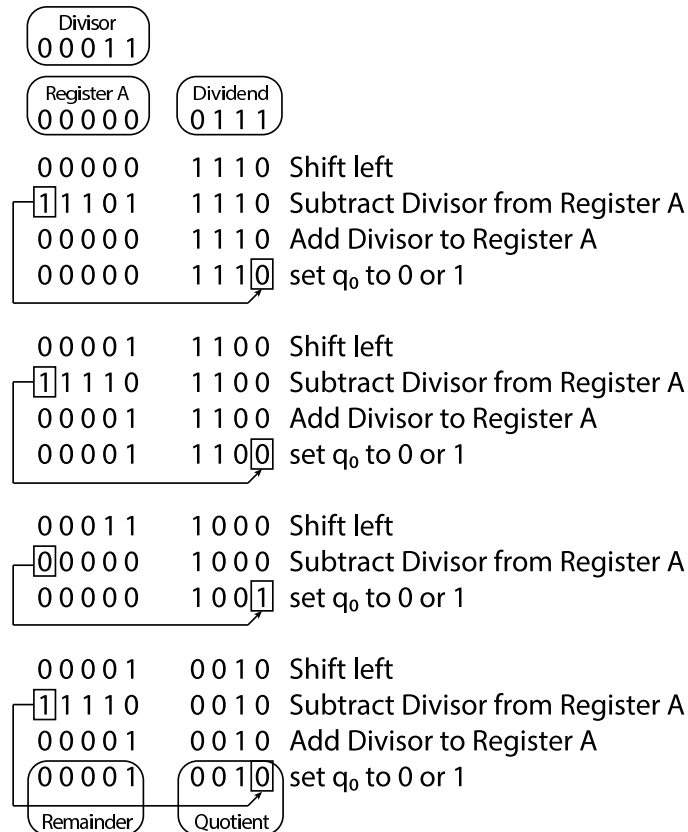
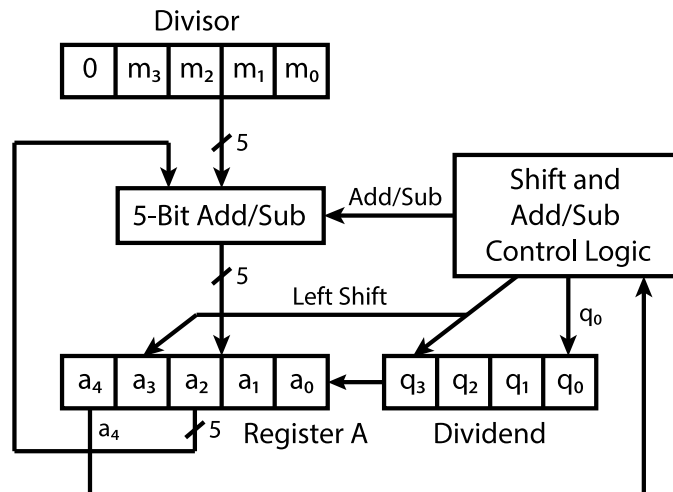

Figure 5: An example showing how the restoring divider works.
Figure 6: Block diagram of restoring divider.
Figure 5 shows an example of how the restoring divider works. This mimics what you do when you do long division by hand. In this specific example, number 7 (*Dividend*) is divided by number 3 (*Divisor*). The restoring divider starts with *Register A* set to 0. The *Dividend* is shifted left and the bit shifted out of the left most bit of the *Dividend* (called the most significant bit or MSB) is shifted into the least significant bit (LSB) of *Register A* as shown in Figure 6.
The *Divisor* is then subtracted from *Register A*. This is equivalent to adding the 2's complement of the *Divisor* (11101 for the example in Figure 5) to *Register A*. If the MSB of *Register A* is a 1, then we restore *Register A* back to its original value by adding the *Divisor* back to *Register A*, and set the LSB of the *Dividend* to 0. Else, we do not perform the restoring addition and immediately set the LSB of the *Dividend* to 1.
1. Draw a schematic for the datapath of your circuit. It will be similar to Figure 6. You should show how you will initialize the registers, where the outputs are taken, and include all the control signals that you require.